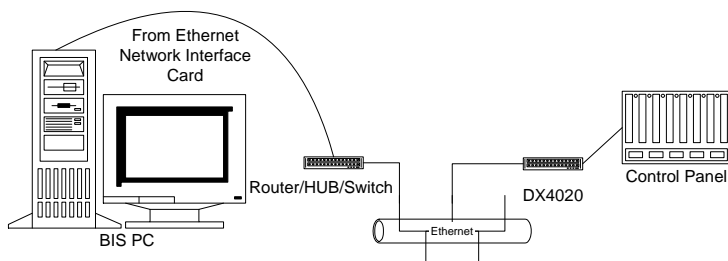

Fig. 3.3 PC and Control Panel to LAN Interconnect Diagram
- q. Connect the PC to the LAN using a router, hub, or switch. The PC and the control panel are now connected to the LAN (*Figure 3.3*).